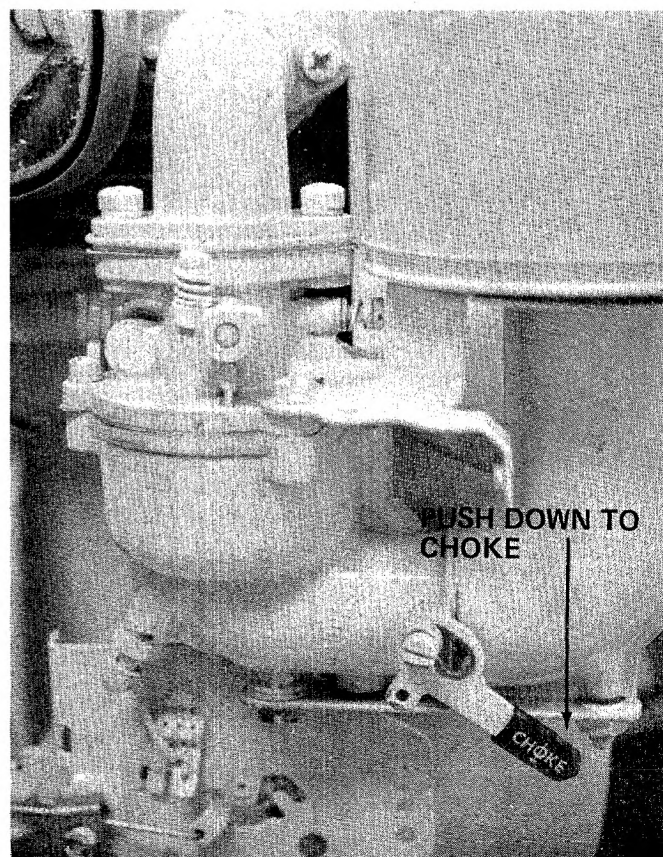

FIGURE 18
2. Move choke lever to CHOKE position. See figure 18.